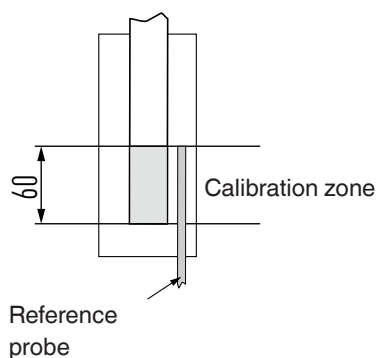

Fig. 2
- The sensitive element of the thermometer is in the best position, if the probe is inserted down to the bottom (see Fig. 2).